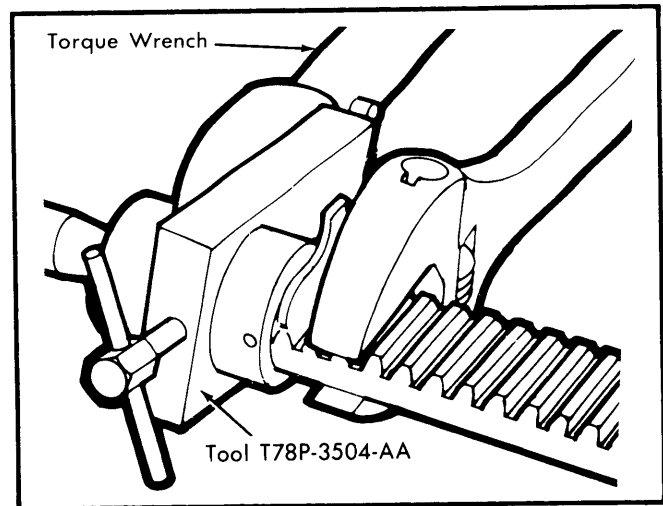

Fig. 4 Tie Rod Ball Housing Assembly (Fairmont/Zephyr)
2) Remove clamps and bellows and drain lubricant. Use care not to damage or contaminate inside of bellows. Remove spiral pin from ball housing (Fig. 4) using suitable tool (T78P-3504-N).